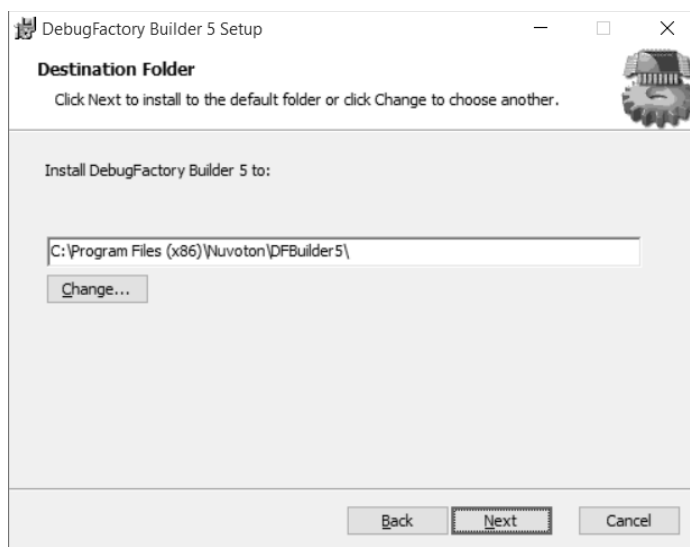

Figure 1.1.4 Choose Destination Folder
4. The dialog shown in Figure 1.1.4 appears. Confirm the destination folder where the software tools will be installed, then click <Next>. If you want to install in a different folder, click <Change...> to specify the folder.